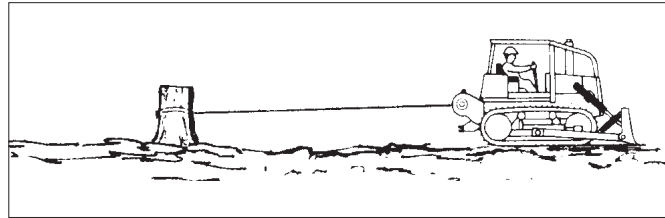

Figure 20 Moving a Disabled Vehicle (Step A)
A. A tractor or skidder often travels in areas where traction conditions are bad. A vehicle equipped with a winch can be used to remove itself from mud or other areas where it cannot move using only the drive wheels or tracks. See Figure 20. Use the following procedure: